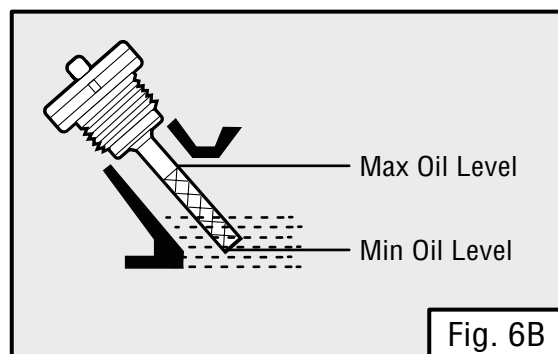

Fig. 6B
4. To check the oil level: wipe the dipstick with a clean rag. Insert the dipstick into the oil fill opening without screwing it in. Remove the dipstick to check the oil mark. (Fig. 6B)